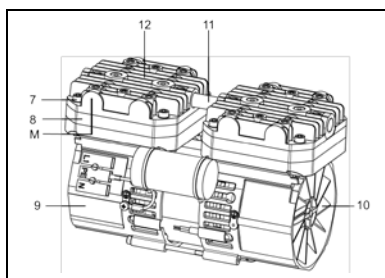
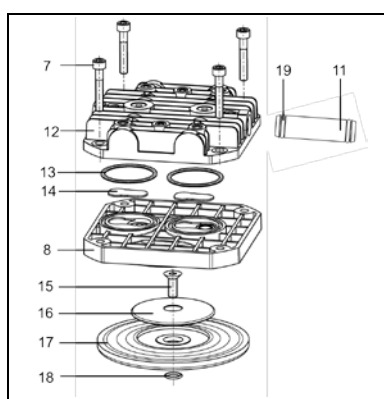

Fig. 6: Pump N 936.3
Fig. 7: Pump head (exploded drawing, symbolic)
** according to Fig. 7
Mark the position of head plate (Fig. 6/12), intermediate plate (8) and pump housing (9) relative to each other by a drawing line (M) with a felt-tip pen. This helps avoid incorrect assembly later.
- Turn the fan (Fig. 6/10) to bring one diaphragm (Fig. 7/17) to top dead centre.
- Unscrew the screw for retainer plate (Fig. 7/15), and take off the retainer plate (16).
- Remove diaphragm (Fig. 7/17) from reception.
- Turn the fan (Fig. 6/10) until the connecting rod (connecting part between motor shaft and diaphragm) is at top dead centre.
- Replace the O-ring below the retainer plate (Fig. 7/18) with a new one.
- Lay in the new diaphragm (Fig. 7/17); then apply the retainer plate (16) and tighten it to the connecting rod with the screw for retainer plate (15) (tightening torque: 9 Nm).
- i** The self-locking screw for retainer plate (15) can only be used once.
- Pull the connecting tube(s) (Fig. 7/11) out of one of the two head plates (12).
- Separate the head plate (Fig. 7/12) from the intermediate plate (8).
- Remove the valves (Fig. 7/14) and O-rings (13) from the intermediate plate (8).
Lay the new valves (Fig. 7/14) and O-rings (13) in the recesses in the intermediate plate (8).
6. Place the head plate (Fig. 7/12) on the intermediate plate (8), in the position indicated by the marking (Fig. 6/M).
7. Check that the head plate (Fig. 7/12) is centred by moving it gently sideways.
1. Push the connecting tube(s) (Fig. 7/11) into the hole in the head plate (12).
2. Place the two pump heads that are joined by the connecting tube(s) (Fig. 7/11) on the housing according to the markings (Fig. 6/M).
Gently tighten the screws (Fig. 7/7) , evenly and diagonally.
4. Turn the fan (Fig. 7/10) to check that the pump rotates freely.
5. Now tighten at both pump heads screws (Fig. 7/7) diagonally (tightening torque: 6 Nm).